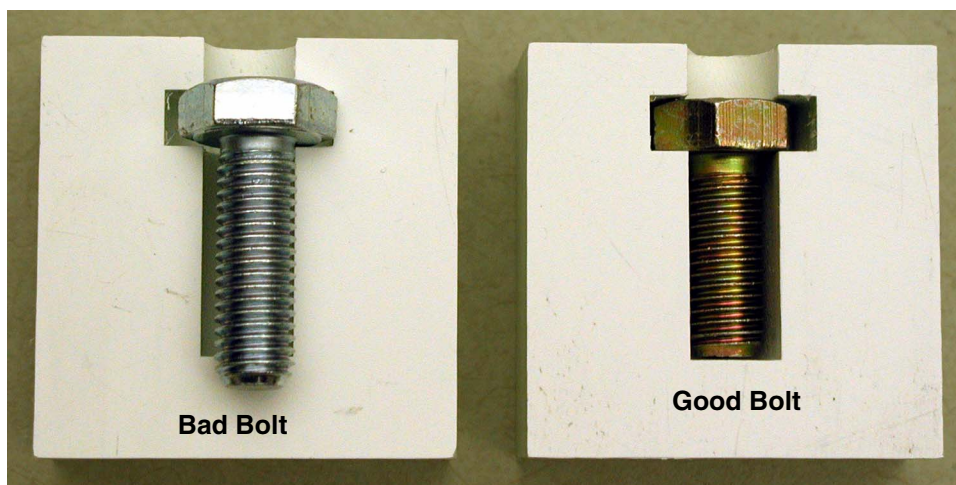

Figure 15 - Measuring Block Usage: 30mm bolt shown at left, 25mm bolt shown at right
- 3.) Using the measuring block provided, verify that the bolt is a M10 x 25mm bolt. Make certain to fit bolt *inside* the block, *not outside* (see Figure 15). M10 x 25 mm bolt on right fits completely within measuring block. Note that the 30 mm long bolt does not fit in the block with the bolt head in the slot.